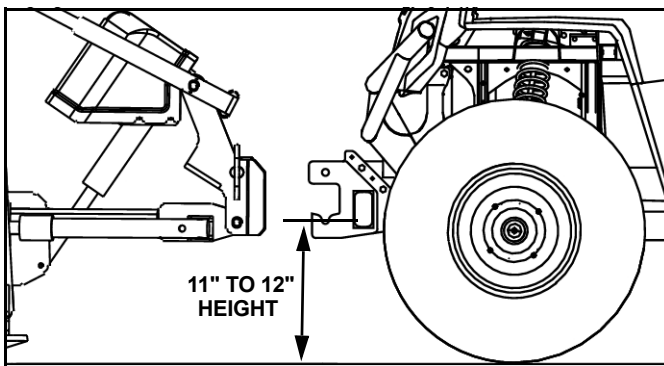

Figure 4
- Position the UTV Mount (#1) on the machine. Align the Mount holes with the Bracket (#2) to provide an 11" to 12" height between the lower pin slots and the ground. (See Figure 4.)